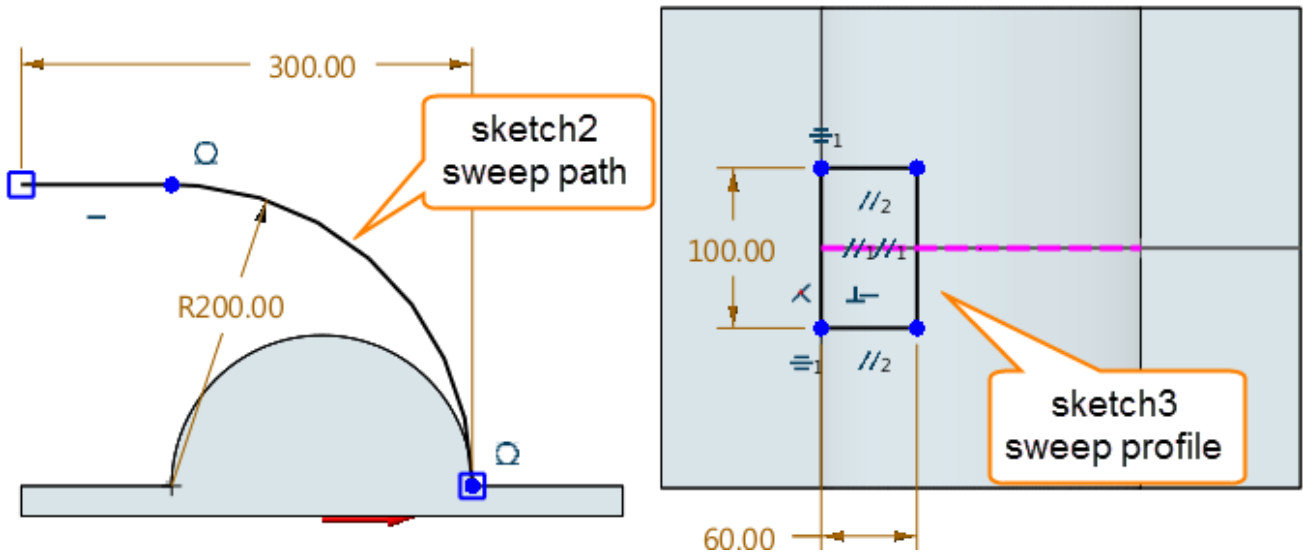

Figure 117 Sweep Path and Sweep Profile
STEP 01 Select ZY datum to create the sketch2. This tangent line and arc will as the sweep path, as shown in the Figure117 on the left.
STEP 02 Select the top planar face of Base as the sketch plane, and draw a rectangle as sweep profile, as shown in the Figure117 on the right.